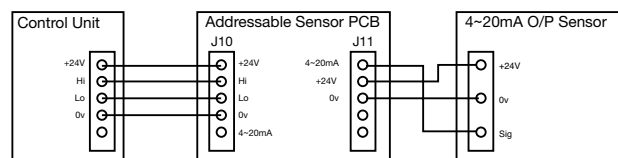
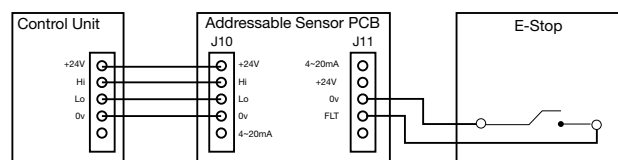

Fig.2
Fig.4
2. Connect external 4~20mA source to the 4~20mA input terminal (J11) on the right hand side of the board as shown in Fig. 2 (For call point/E-Stop see Fig.4)
3. Connect terminal J10 as shown in Fig.2